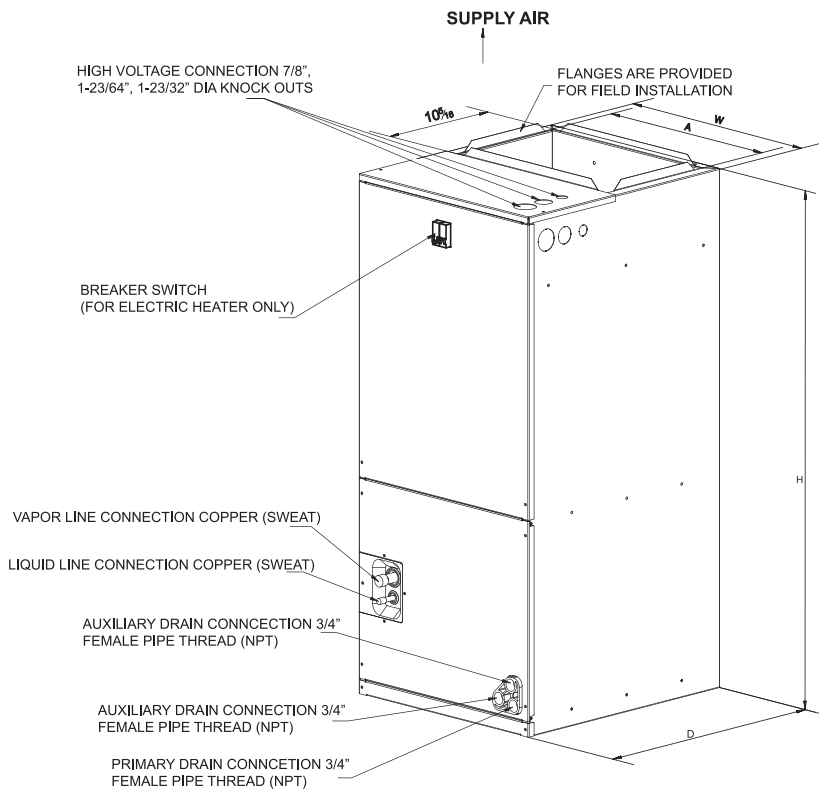

Fig 1 Dimensions
This Air Handler provides the flexibility for installation in any upflow or downflow horizontal application. The direct drive motors provides a selection of air volume to match any application. 3-Speed motors provide selections of air flow to meet desired applications. Top and side power and control wiring, accessible screw terminals for control wiring all combine to make the installation easy, and minimize installation cost. Please contact your local distributor. See fig.1.
- Vertical Upflow configuration is the factory set on all models (see Fig 1).
Torque applied to drain connections should not exceed 15.ft.lbs.(see Fig.1&2)